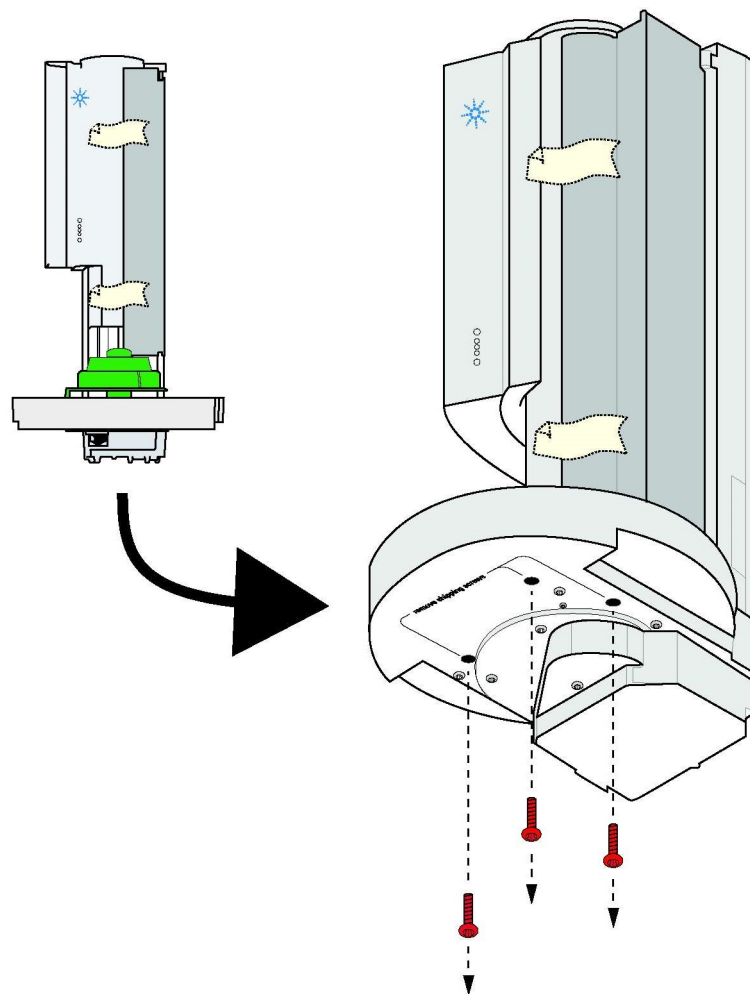

Figure 3 Remove three shipping screws
- 2 Using a T-10 Torx driver, remove the three red-colored T-10 Torx shipping screws from the bottom of the ALS, as shown in Figure 3.